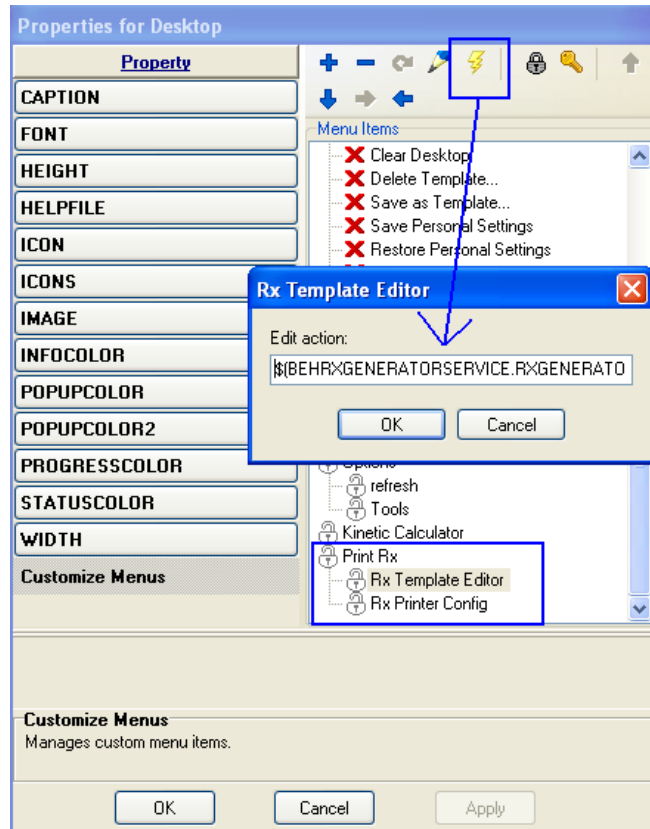

Figure 2-1: Rx Template Editor dialog
Note: Optionally, add a “Print Rx” menu with Rx Template Editor and Rx Print Config as submenus (as shown in Figure 2-1).
1. In **Design mode**, select **Desktop Properties** from the **Design** menu to open the **Properties for Desktop** dialog (Figure 2-1).